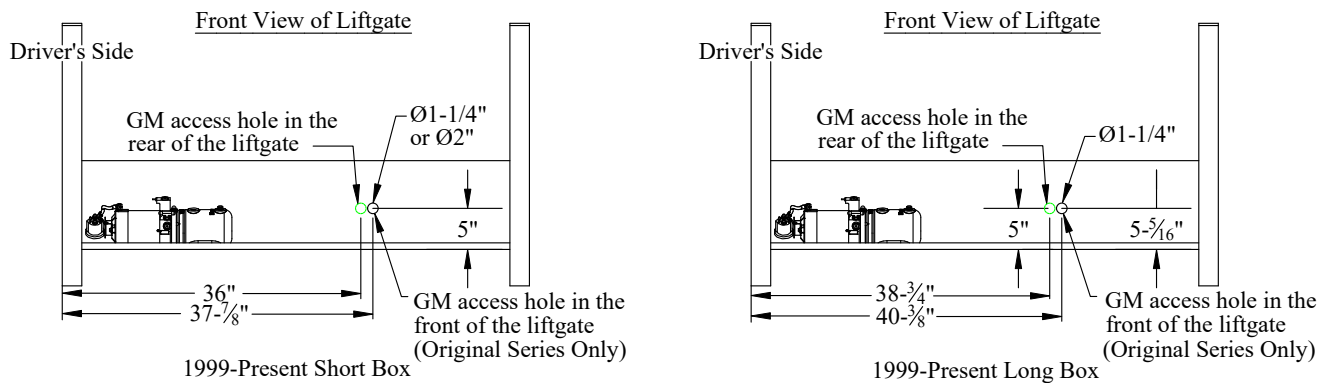

Figure 11: Spare tire access holes.
2. **Remove and Discard** the black plastic plug(s) from the mainframe in the location shown (Figure 11).